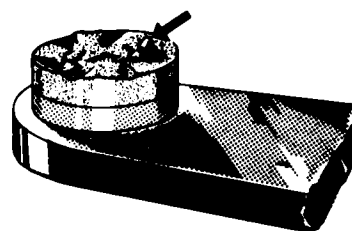

Figure 74-23. Contact Points
5. Remove the breaker cover and harness securing screws and nuts, and separate cover from magneto housing. Check contact assemblies to see that cam follower is securely riveted to its spring. Examine the contact points for excessive wear or burning. Figure 74-23 shows how the average contact point will look when surfaces are separated for inspection. Desired contact surfaces have a dull gray, sand-blasted (almost rough) or frosted appearance, over the area where electrical contact is made. This means that points are worn in and mated to each other, thereby providing the best possible electrical contact and highest efficiency of performance.
6. Minor irregularities or roughness of point surfaces are not harmful. (Refer to Figure 74-23, center.) Neither are small pits or mounds, if not too pronounced. If there is a possibility of pit becoming deep enough to penetrate pad, Figure 74-23, right, reject contact assembly.